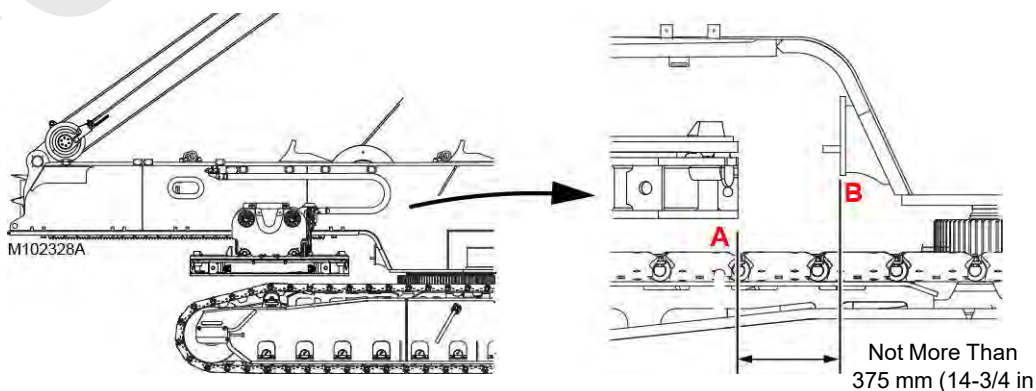

Figure 4-53
- Do not install (or remove) the counterweight boxes until the counterweight tray is traveled to the position shown in Figure 4-53. The crane will tip.
- Travel the VPC trolley forward using the switch on the remote control until the distance from the front edge (A, Figure 4-53) of the counterweight tray to the edge (B) of the rotating bed is no more than the dimension given.